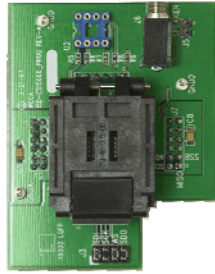

Figure 3-3 ISD-ES15100_PROG
- Single-socket daughter card as shown in Figure 3-3, which can be attached to the ISD15100 EV board.